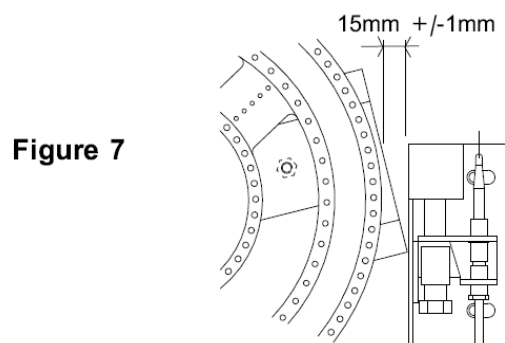

Figure 7
- d) Replace in reverse order. Position thermocouple tip, 38mm above base as shown in Figure 7.